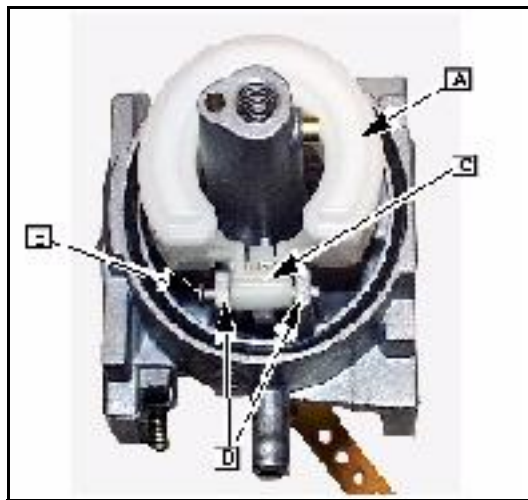

Fig. 46
17. Place float assembly ([A] Fig. 46) in carburetor.
18. Insert the small end of the float hinge pin (B) by hand until pin is through the float
hinge (C) and both hinge pin posts ([D] Fig. 46).